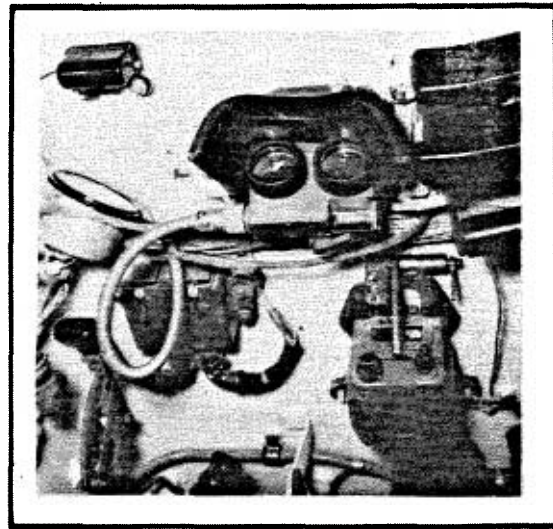

FIG. 2-17. TVN-2 I.R. PERISCOPE
f. TVN-2 Infrared Periscope (Fig. 2-17) The driver has the TVN-2 IR periscope for night driving. The left vision block is removed and the TVN-2 mounted in its place. The IR power cable from the BT-6-26 power supply is connected to the TVN-2 and when the switch on the BT-6-26 is placed in the "ON" position, the TVN-2 will illuminate. This periscope has an unaided range of 60 meters.